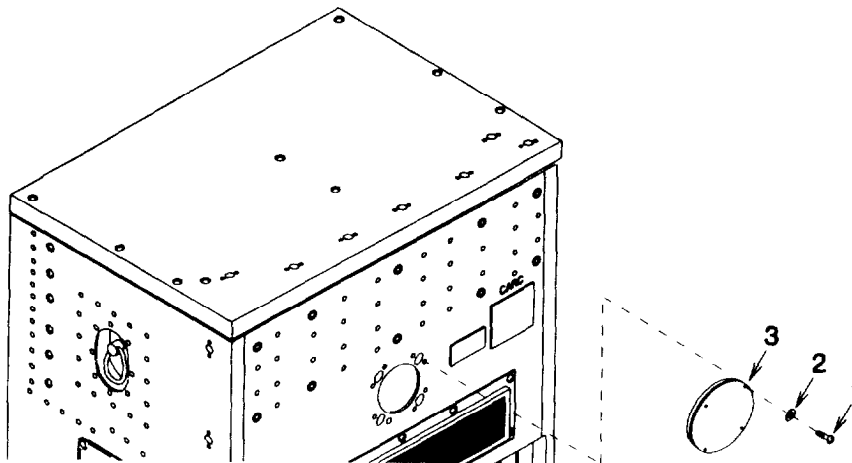
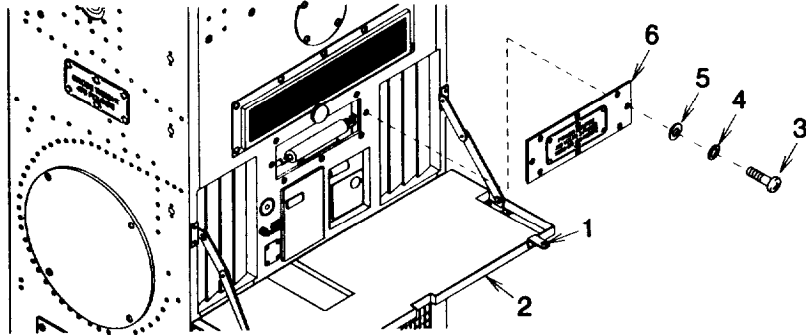
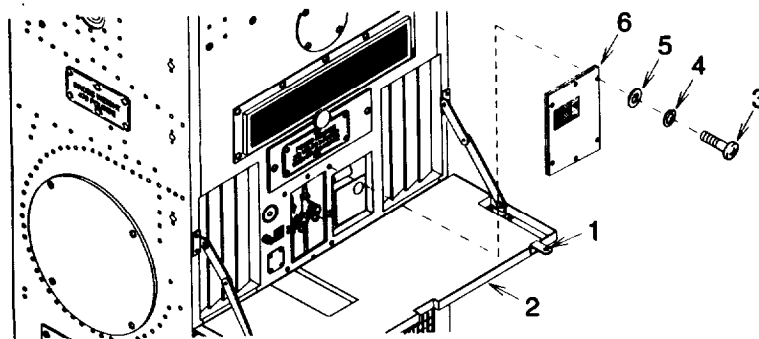

Figure 3-10. NBC Duct Cover
Figure 3-11. Actuating Cylinder Cover Assembly
Figure 3-12. Service Valve Cover
- (b) Remove four screws (1) Figure 3-10, flat washers (2), and cover (3).
(2) Actuating Cylinder Cover Assembly.
- (b) Loosen two turnlock fasteners (1) Figure 3-11 and open condenser discharge air deflector door (2).
- (c) Remove eight screws (3), lock washers (4), flat washers (5), and cover (6). Discard lock washers.
(3) Service Valve Cover.
- (b) Loosen two turnlock fasteners (1) Figure 3-12 and open condenser discharge air deflector door (2).
- (c) Remove six screws (3), lock washers (4), flat washers (5), and cover (6). Discard lock washers.
(1) NBC Duct Cover.
- (a) Install cover (3) Figure 3-10, four screws (1), and flat washers (2).
- (a) Install cover (6) Figure 3-11, eight screws (3), new lock washers (4), and flat washers (5).
- (b) Close condenser discharge air deflector door (2) and tighten two turnlock fasteners (1).
(3) Service Valve Cover
- (a) Install cover (6) Figure 3-12, six screws (3), new lock washers (4), and flat washers (5).
(4) Connector Cover Plates.